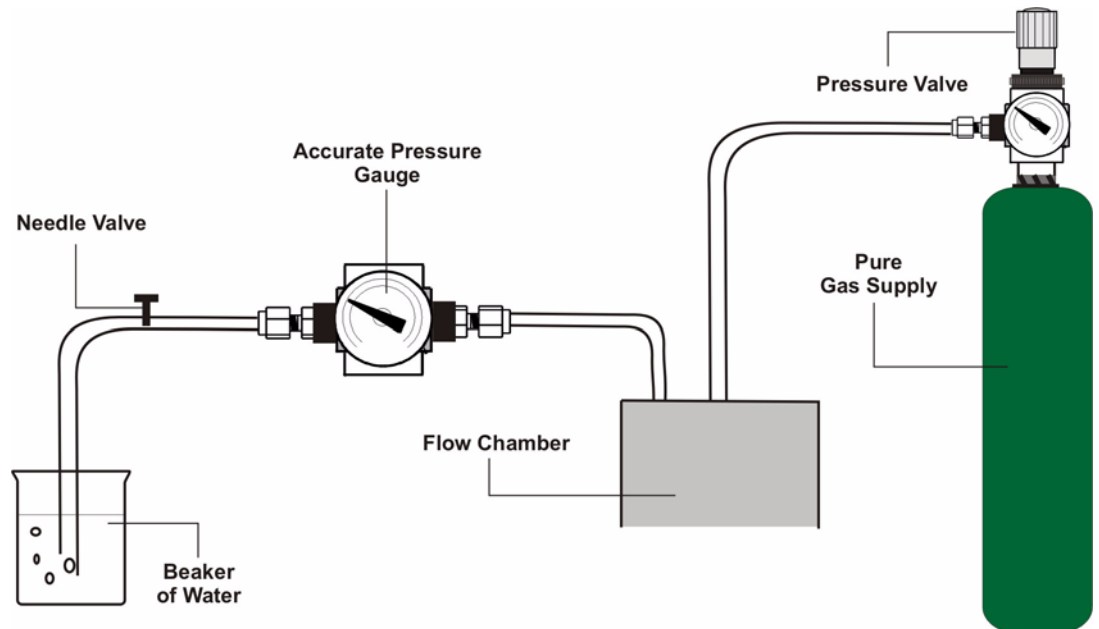

Fig 4-2: Calibration Setup Diagram
The calibration procedure requires a source of pure gas (regulated by a pressure valve) connected to the central entry port of the flow chamber, an accurate pressure gauge (better than $\pm 2\%$) at the exit of the flow chamber, a needle valve to control the flow on exit, and a beaker of water to monitor the gas flow. Fig 4-2 above illustrates the calibration setup.
- 2) Connect a source of pure H₂ or N₂ gas to the inlet of the flow chamber, as illustrated in Fig 4-2 on page 37, and adjust the gas flow to one bubble per second when the exit tube is immersed in water.
- 2) Connect a source of pure H₂ or N₂ gas to the inlet of the flow chamber, as illustrated in Fig 4-2 on page 37, and adjust the gas flow exiting from the flow chamber to be in the range of 1 to 5 bar (it is best to use a pressure close to the application conditions).